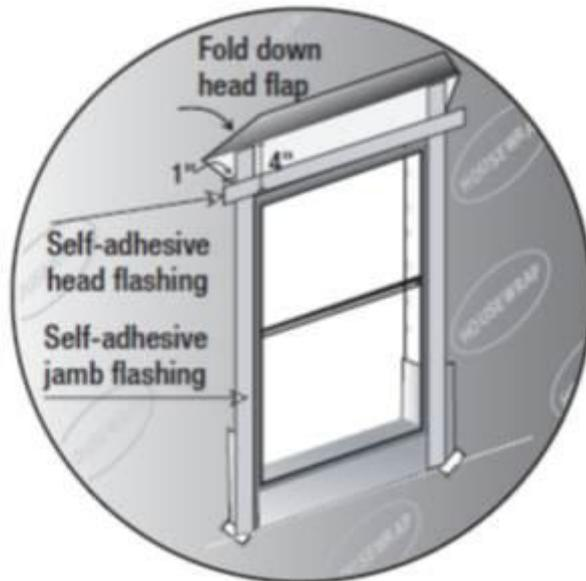

Figure 5 - Flash the sides and top of the window.
4. Install jamb and head flashing. See Figure 5.